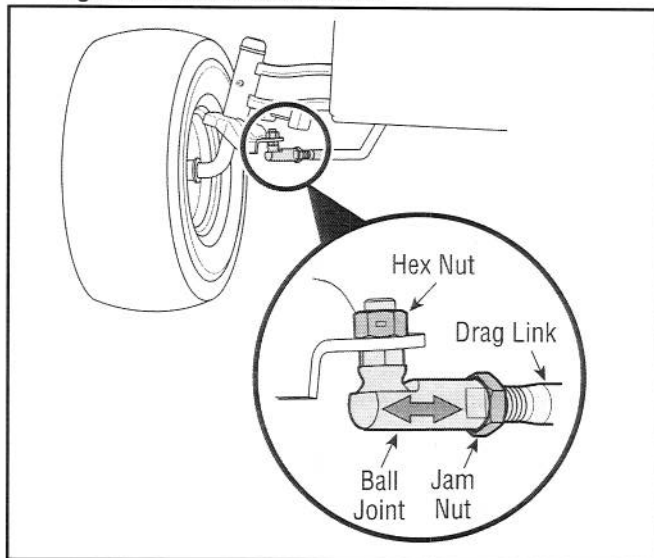

Figure 15
1. Loosen the jam nut found on the drag link at the rear of the ball joint. See Figure 15 .
2. Remove the hex nut on the top of ball joint. See Figure 15 .